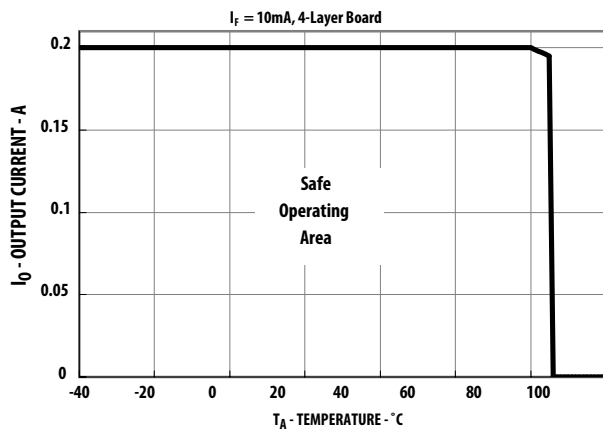

Figure 1. Maximum Output Current Rating vs Ambient Temperature (ASSR-1218-003E)
1. For derating, refer to Figure 1, 2, 3 and 4.
Figure 1, 2, 3 and 4 specify the maximum average output current allowable for a given ambient temperature. The maximum allowable output current and power dissipation are related by the expression  $R_{ss} = P_o(max) / (I_o(max))^2$  from which  $R_{ss}$  can be calculated. Staying within the safe area assures that the steady state MOS-FET junction temperature remains less than 125 °C.